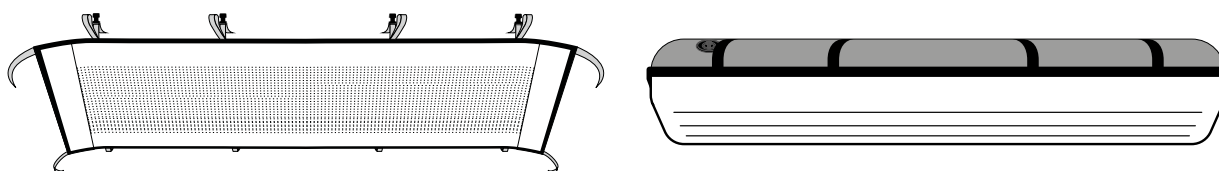

Fig. 4
2. The device can be used both inflated and deflated (Fig. 4).